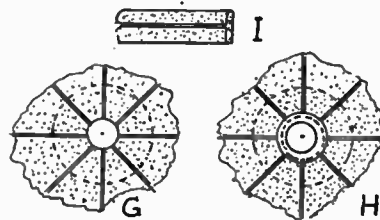

Fig. 4—Details at ferrule point
A small hole should be left in the centre, just large enough to pass the ferrule and no more, as at (G), Fig. 4. Cut a  $2\frac{1}{2}$  in. circle of the material, and lay this underneath. Cut a similar hole in this, then with a short piece of black tape, or a 1 in. wide strip of the material itself, folded over as at (I), bind the middle hole, the finished job being as at (H).